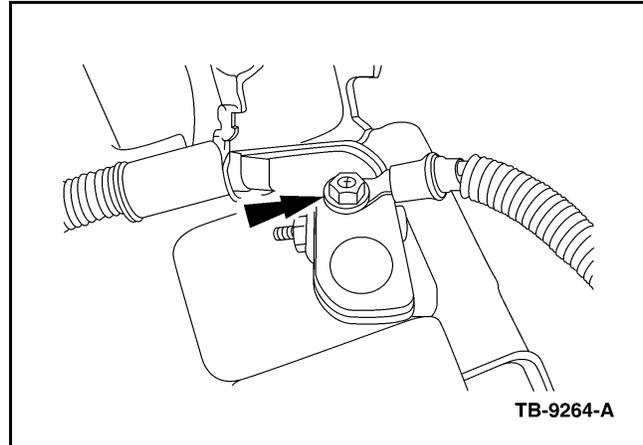

Figure 1 - Article 08-26-3
4. After checking the FICM calibration info, perform a PMI on the FICM. This should be done even if the FICM already had one of the three (3) calibrations listed above.
5. Disconnect the glow plug control module (GPCM) power wire C1249A, circuit 361 (RD) from the passenger side battery. (Figure 1) This also disconnects the alternator to minimize power draw from the batteries and provide more consistent FICM testing.